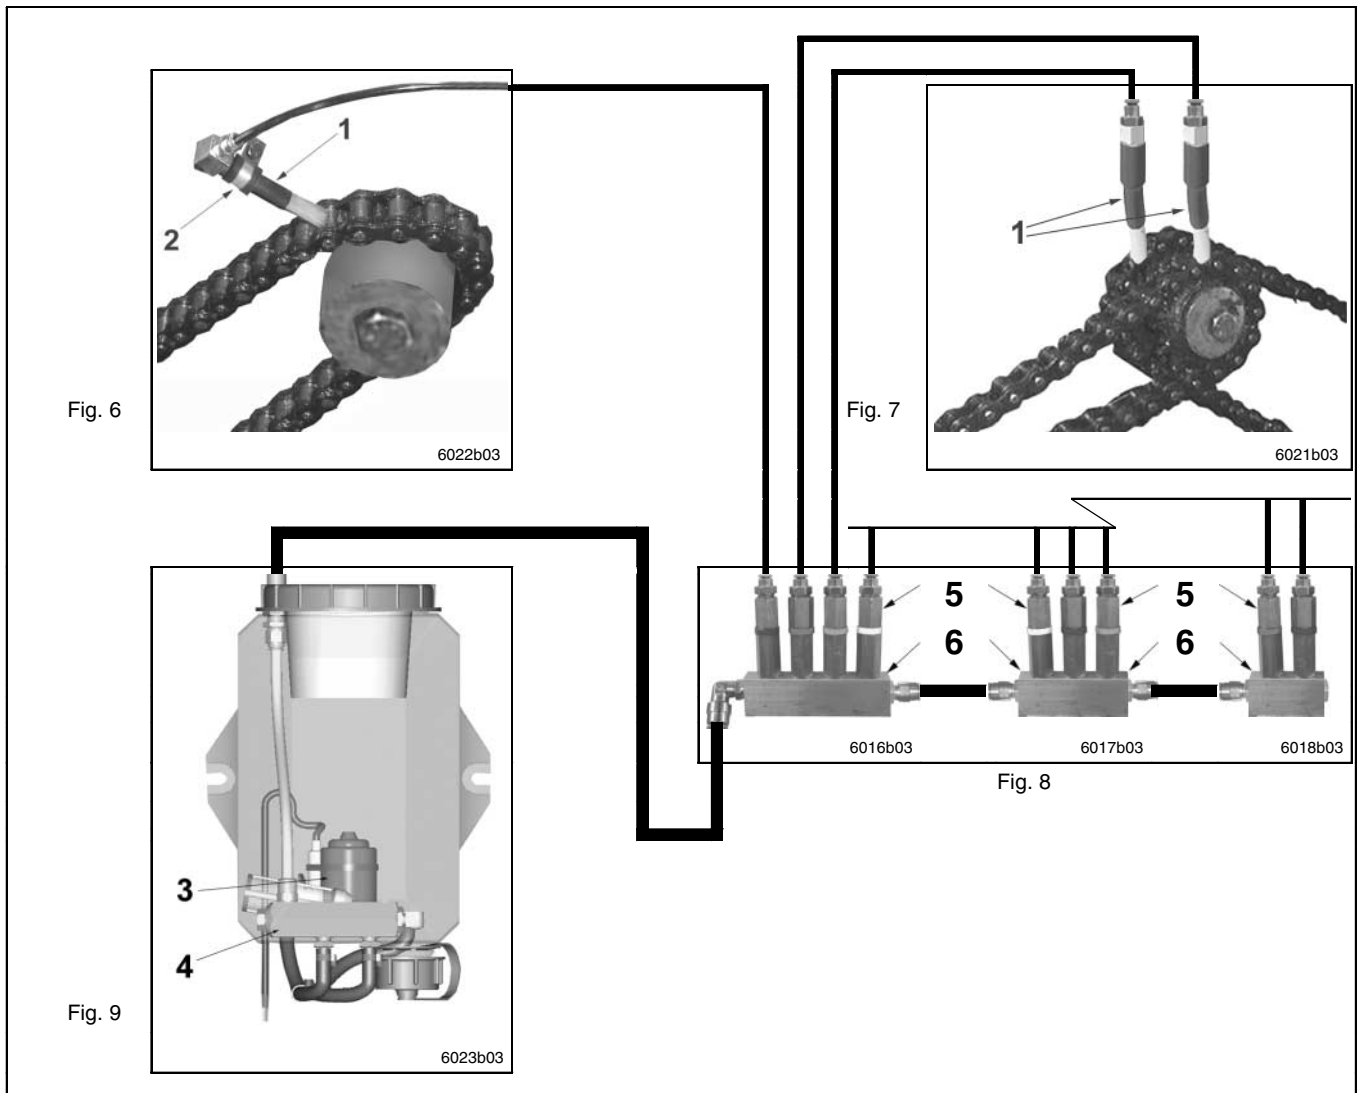

Fig. 10 Schematic structure of the ESILUB Oil System EOS
- Connect the components of your EOS as shown in figure 10 on page 9,
- with attached gear pump (pos. 3)
- with integrated pressure unit (pos. 4) with integrated pressure relief valve and vent valve
- As to fig. 10 Line material
- Feedlines between the reservoir outlet (page 10, pos. 9) and the divider bars (pos. 6) => Ø 8 mm
- Lubrication lines between the metering elements (pos. 5) and the lubrication points (brush, pos. 1) => Ø 4 mm